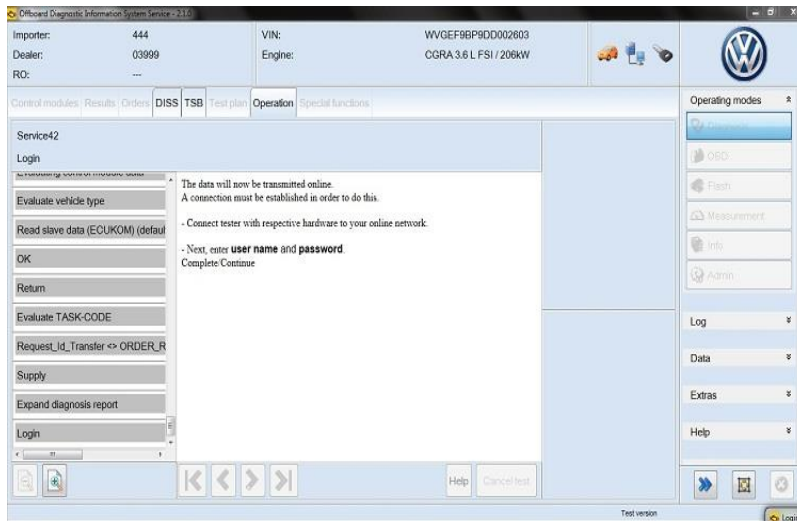

Figure 4
10. Enter your GeKo ID when requested. This will allow data to be transmitted to the SVM server and will provide instructions on how to continue the procedure (Figure 4).